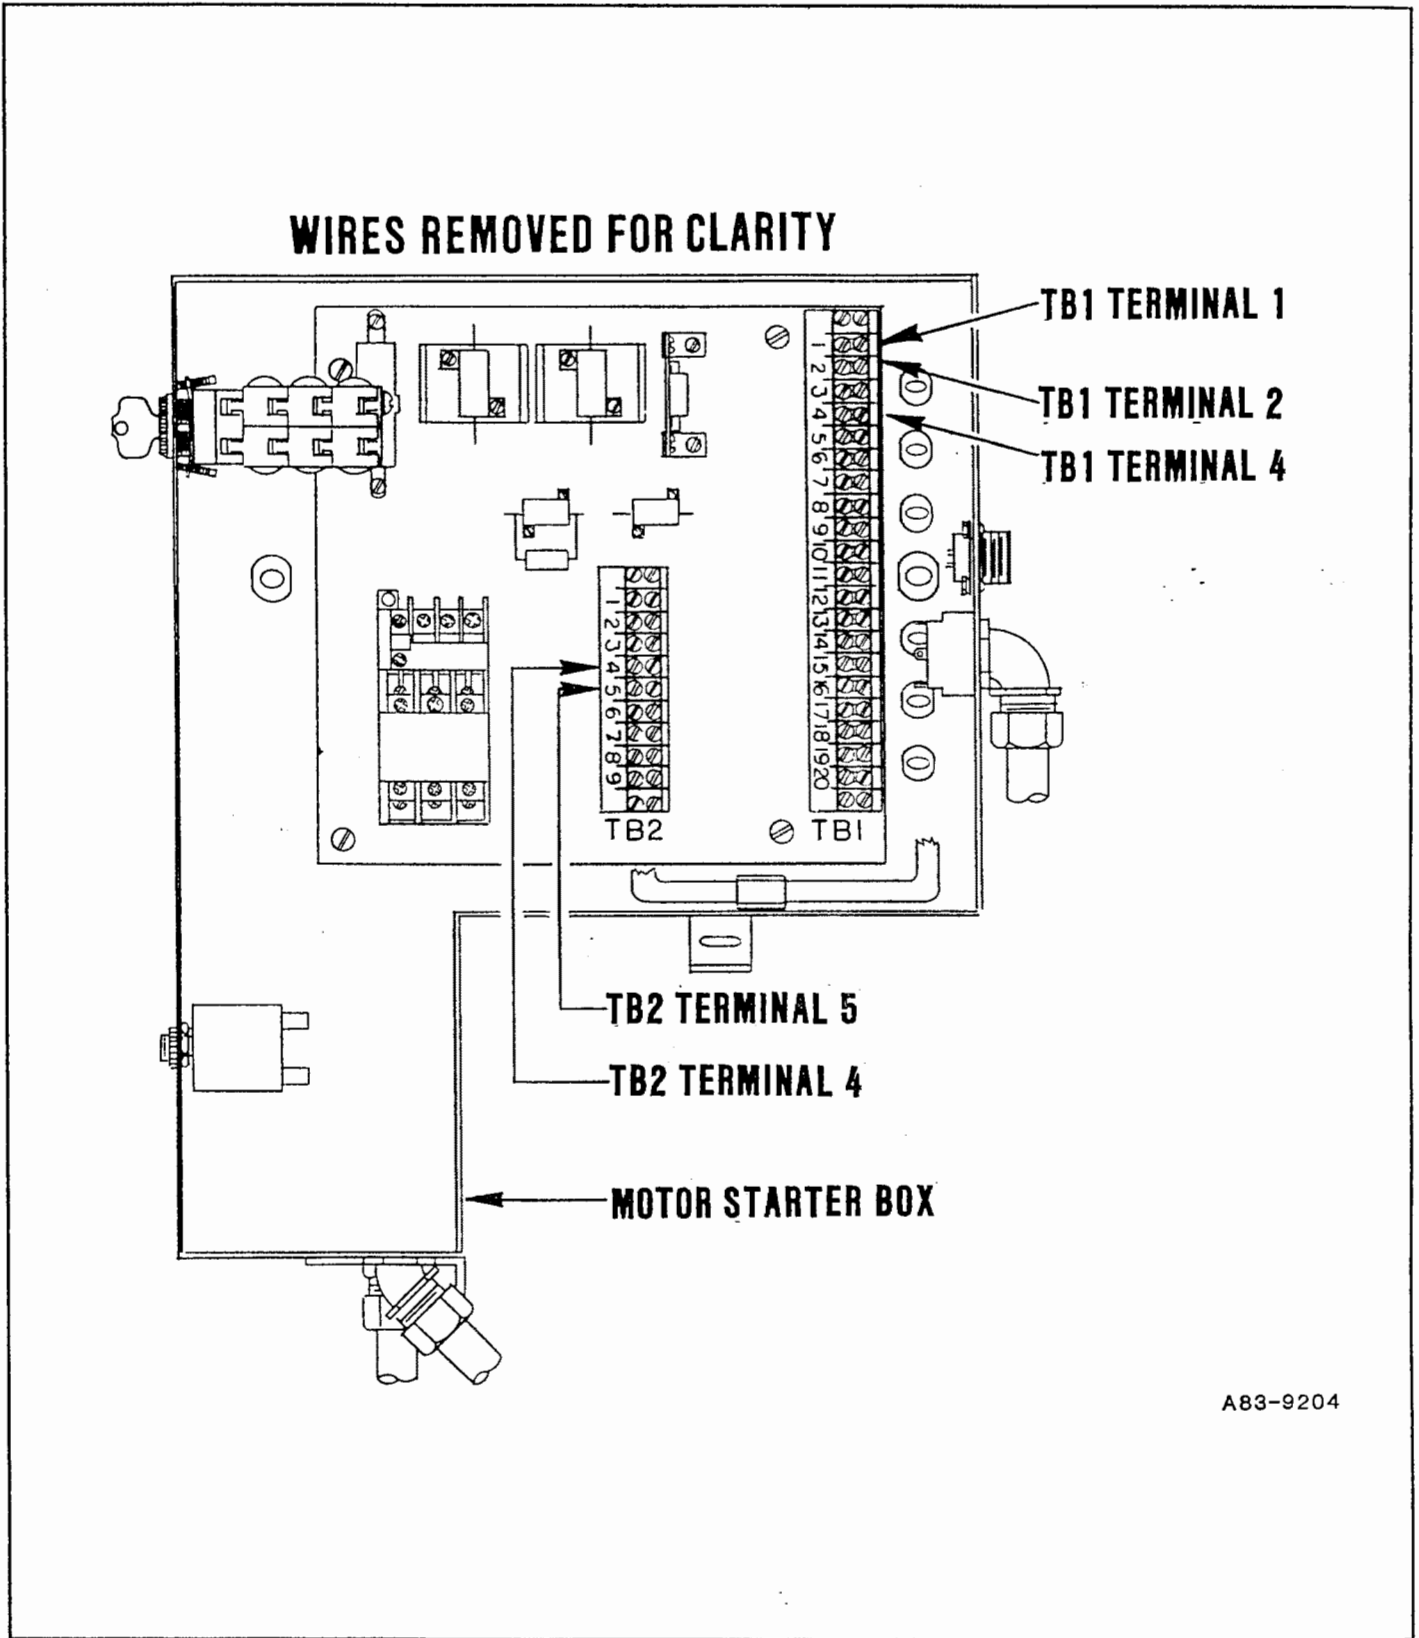

Figure 8.3 E
4. Test for 140 ± 10 ohms across TB1 terminals 1 and 2 with volt/ohm meter. See Figure 8.3 E. If 140 ± 10 ohms are not present (coil is bad), go to step 9. If 140 ± 10 ohms are present (solenoid is OK), go to step 5.
8. Test for 40 to 55 volts DC across TB1 terminals 1 and 2 (2 is ground) with volt/ohm meter. See Figure 8.3 E. If 40 to 55 volts are not present, replace brake solenoid PCB according to Section 8.3.3. If 40 to 55 volts are present, reattach the back panel and continue to follow the troubleshooting chart.